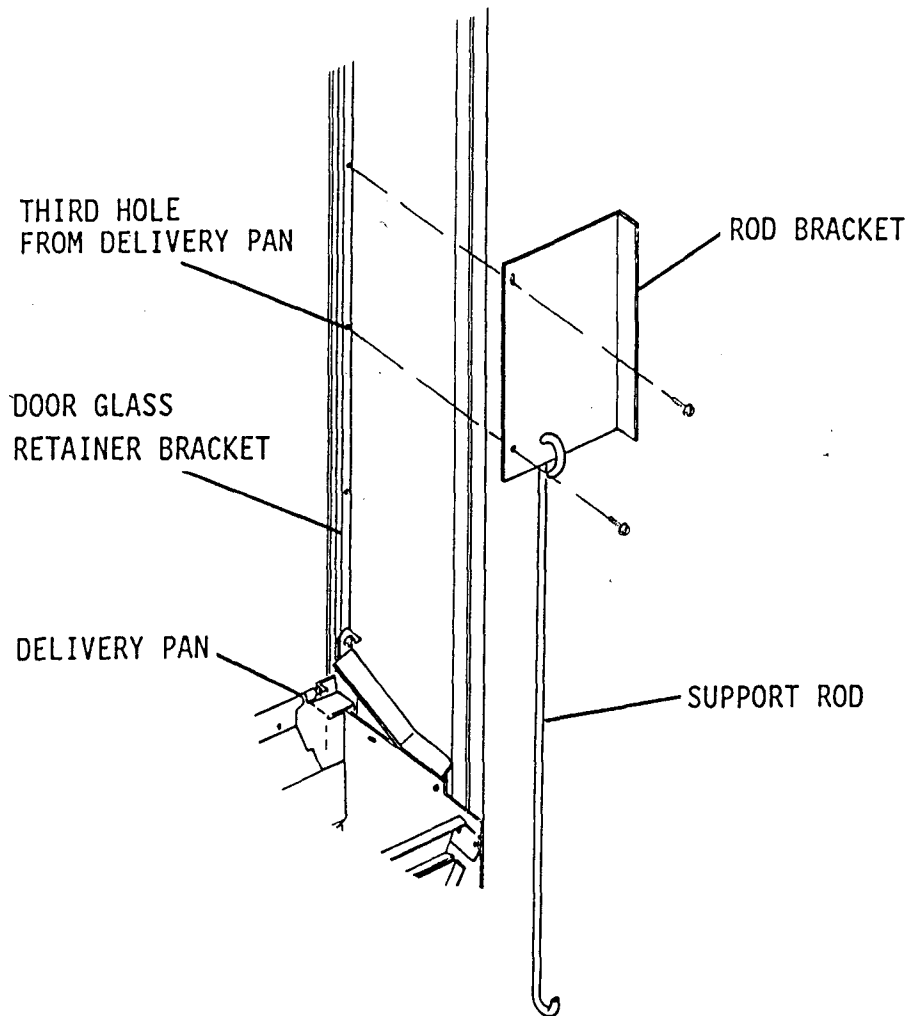

FIGURE 7. Rod Bracket Installation
2. Locate the third and fourth screws on the door glass right side retainer bracket above the delivery pan. Remove these screws. See Figure 7.
3. Mount the Gum and Mint Support Rod Bracket at this position using the two screws removed in Step 2. See Figure 7 for correct orientation of rod bracket.